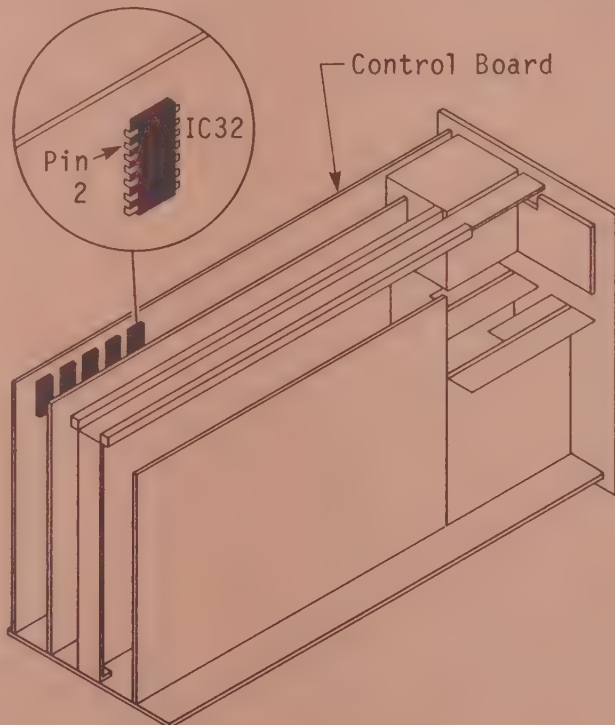

Figure 11-1
11.2.1. Measure the frequency (Time Base) at IC32, Pin 2, (Figure 11-1).